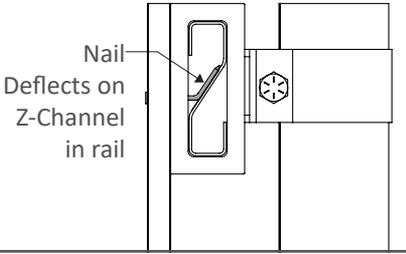

Fig. 28
2. Continue this process along the fence run, making sure to check periodically that panels are flush and plumb. As shown in Fig. 28.